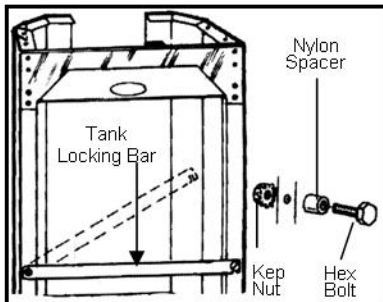

Fig. 1
A. In box #2, find and attach the LP Tank Locking Bar across the back of the column. This spreads and holds the correct spacing at the back of the column regardless of the type of gas that will be used. Use the (2) 3/4" Hex Bolts, Nylon Lock Bar Spacers and Kep Nuts to fasten the lock bar in place. (Fig. 1)
A. In box #2, find and attach the LP Tank Locking Bar across the back of the column. This spreads and holds the correct spacing at the back of the column regardless of the type of gas that will be used. **(Fig. 1 Page 8)**